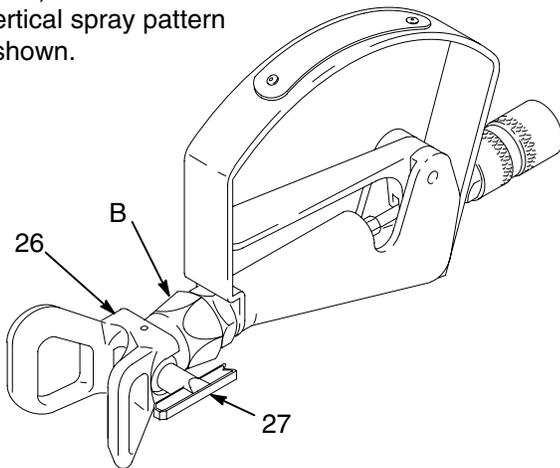

Fig. 3
To adjust the orientation of the spray pattern, **relieve the pressure**. Engage the safety latch, and loosen the tip guard retaining nut (B). Rotate the tip/guard assembly (26, 27) to the spray pattern orientation you desire. See Fig. 3.